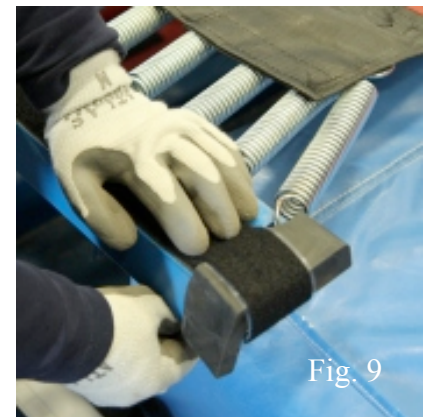

Fig. 9
- B. Attach the pressure sensitive loop Velcro to the outer edge of the holes on the Tumbl Trak™ rails leaving 6" extra to wrap around the endcaps and underside of the rail. This will secure the endcaps to the frame and prevent them from coming off. (See Fig. 9).